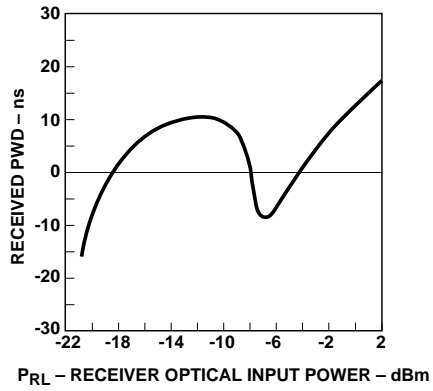

Figure 2. Typical POF receiver pulse width distortion vs. optical power at 10 MBd.
- Receiver overdrive ($P_{RL,max}$) is specified as the limit where |PWD| will not exceed 30 ns. The receiver will be in the correct state (logic “0”) for optical powers above $P_{RL,max}$. However, it may not meet a 30% symbol period PWD if the overdrive limit is exceeded. Refer to Figure 2 for PWD performance at high received optical powers.